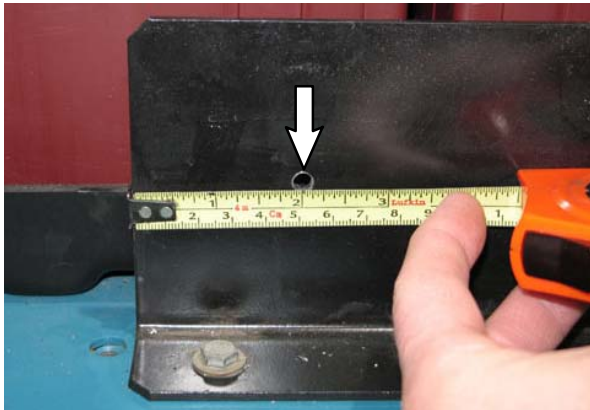
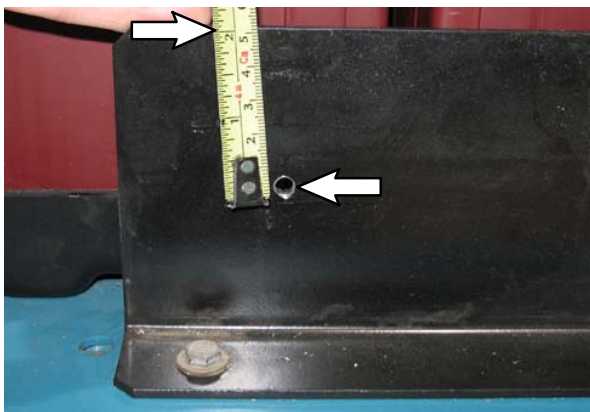

FIG. 7
FIG. 8
17. Drill a 3/16 in. (4.76 mm) hole into the battery brace 2 in. (51 mm) from the edge of the battery brace closest to the front of the machine and 2 in. (51 mm) from the top edge of the battery brace. (Fig. 7 / Fig. 8)